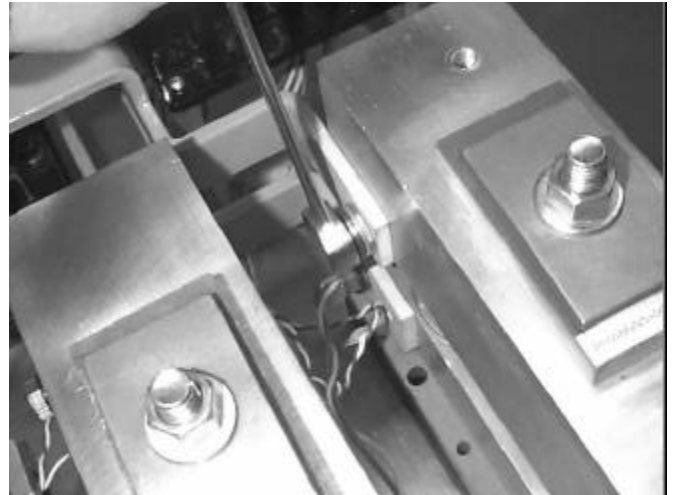

Figure 18. Removing the busbar mounting bolt.
2. Remove the bolt holding the busbars connected to the blocks on the load and line sides of the SCR Module, as shown in Figure 18.